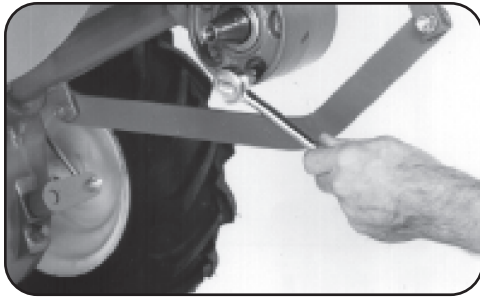

Figure 5-9
2. For complete drainage, remove the left-side tine assembly (see Tines in the Service section), then remove just one of the lower screws from the tiller housing cover. See Figure 5-9. To speed drainage, remove the tine attachment dipstick to vent transmission.